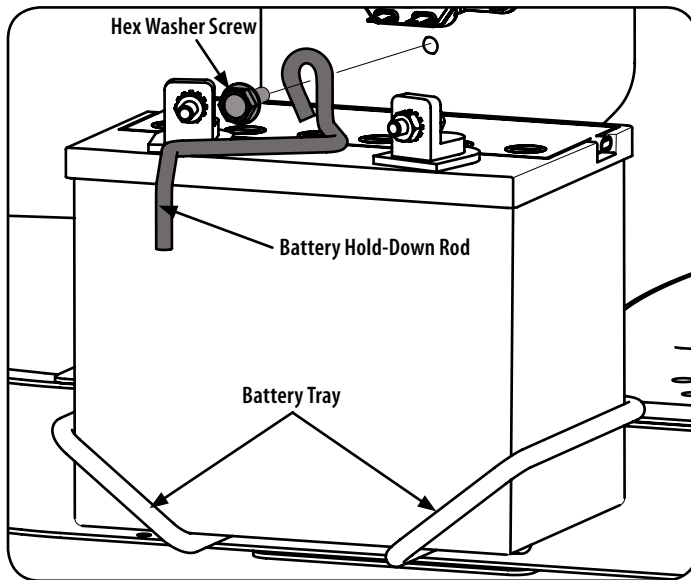

Figure 42
2. Remove the hex washer screw securing the battery hold-down rod to the frame. See Figure 42.
4. To re-install the battery, place it back in the battery tray and secure in place with the battery hold-down rod and hex washer screw. See Figure 42.